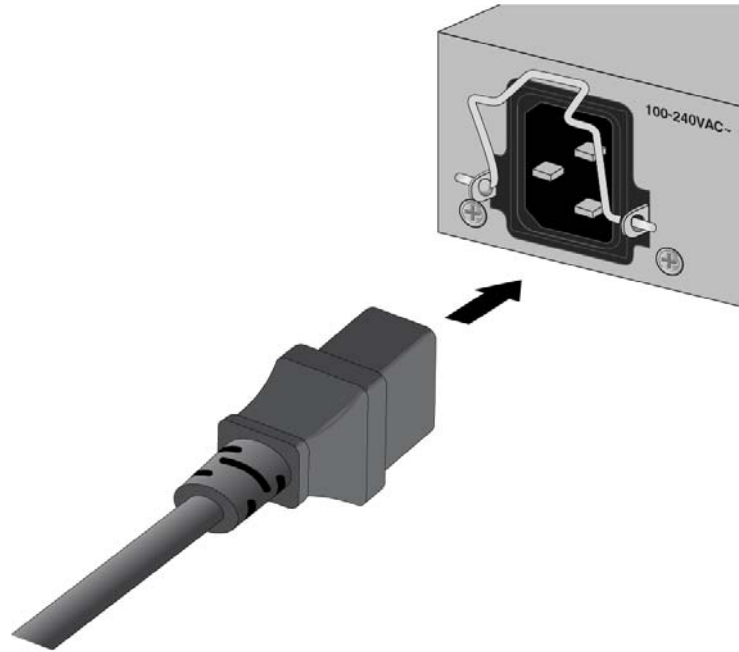

Figure 41. Connecting the AC Power Cord to the Switch
2. Connect the AC power cord to the AC power connector on the rear panel of the switch. Refer to Figure 41.